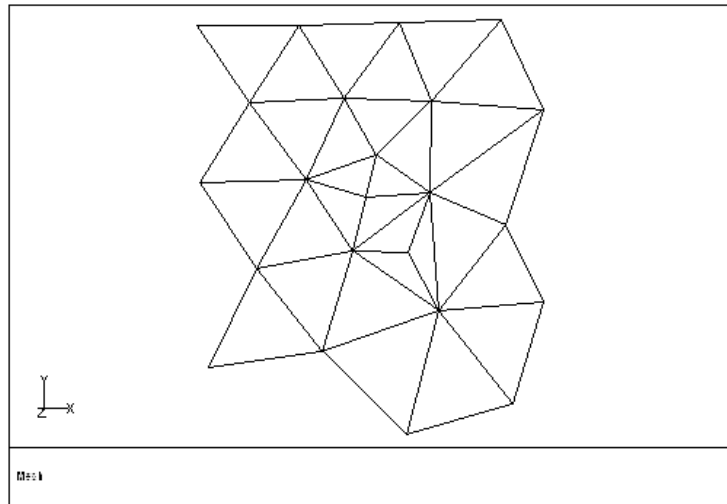

Figure 1.24: Surface Mesh After Splitting the Face
- (c) Click **Split** in the **Operation** group box to split the face (Figure 1.24).